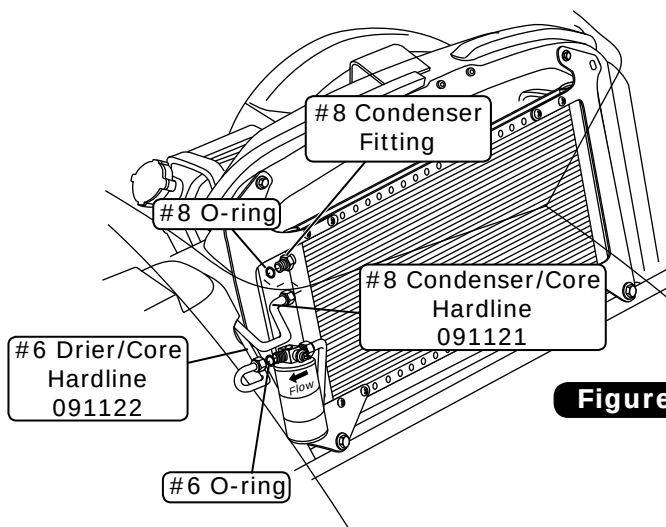

Figure 1
1. Lubricate a #6 O-ring (See Lubricating O-rings, Page 6), and install the #6 drier/core hardline as shown in Figure 1 and Photo 1, below. **NOTE: Do not fully tighten the #6 hardline at this time. Hand tighten only.**
2. Lubricate a #8 O-ring (See Lubricating O-rings, Page 6), and install the #8 condenser/core hardline as shown in Figure 1 and Photo 2, below. **NOTE: Do not fully tighten the #8 hardline at this time. Hand tighten only.**